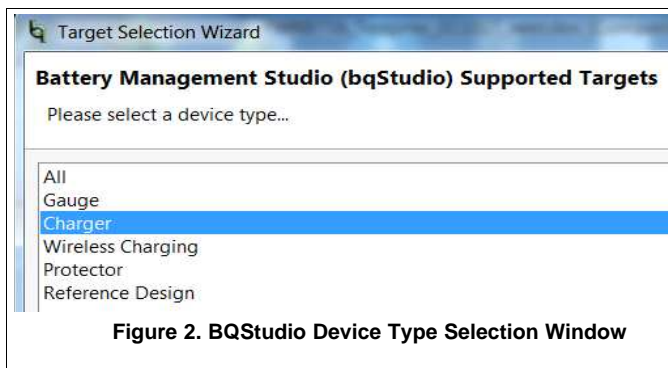

Figure 2. BQStudio Device Type Selection Window
1. On the computer connected to the EV2300/2400 interface board, launch Battery Management Studio (BQStudio). Select Charger as seen in Figure 2.